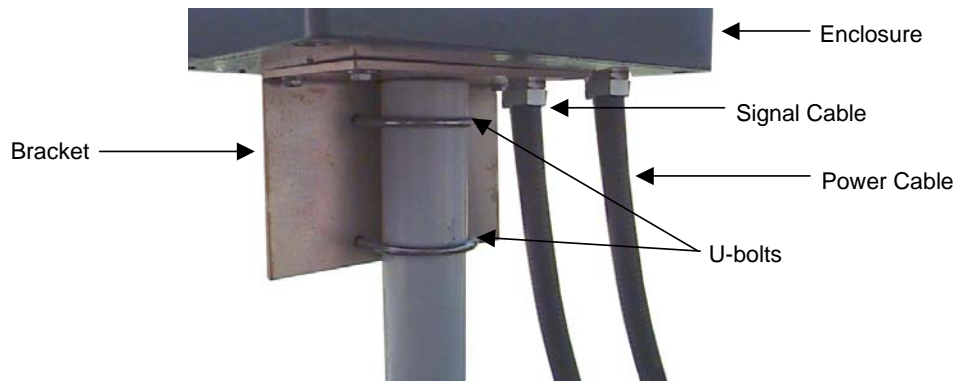

Figure 2. Sensor package mounting
- 6** Set the sensor package (antenna, ground plane, enclosure, and bracket) on the mast, and fasten loosely with two U-bolts, lock washers, and flat washers as shown in **Figure 2**.